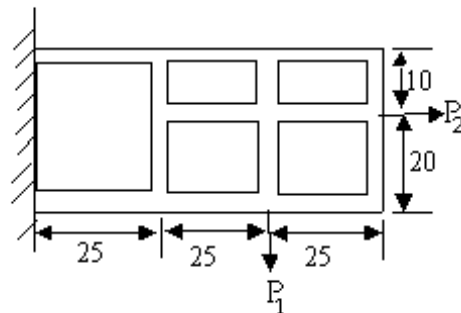

Figure 6b
- (b) Find the shear flow in each web of the beam shown in the figure 6b. Plot the distribution of axial load along each stiffening member when $P_1=25\text{kN}$, $P_2=15\text{kN}$ All dimensions are in cm. [6+10]